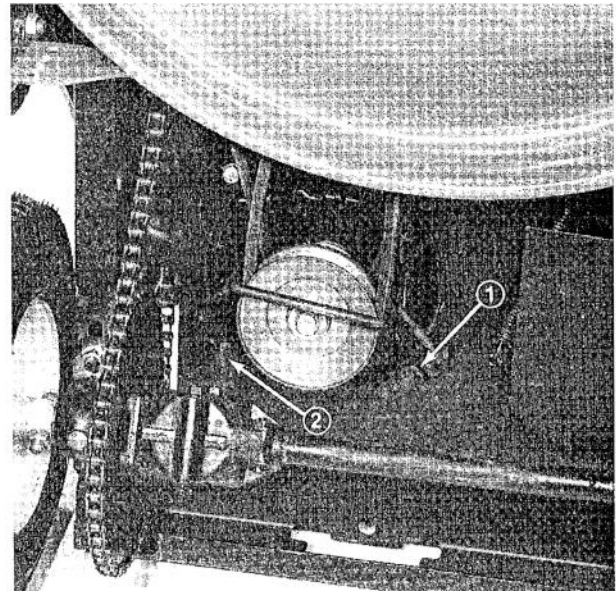
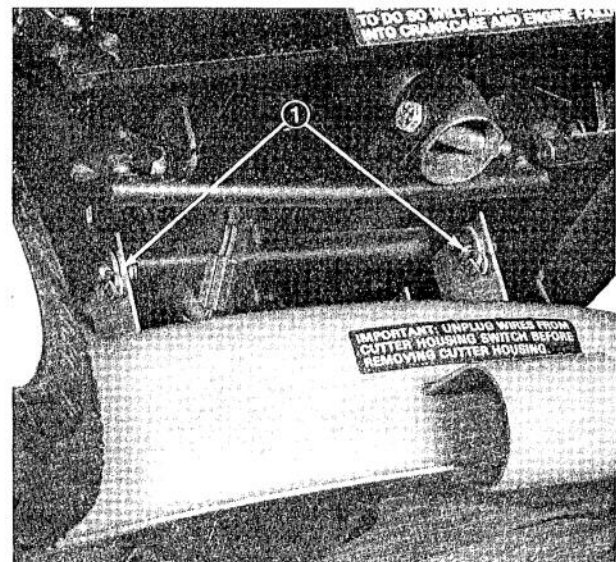
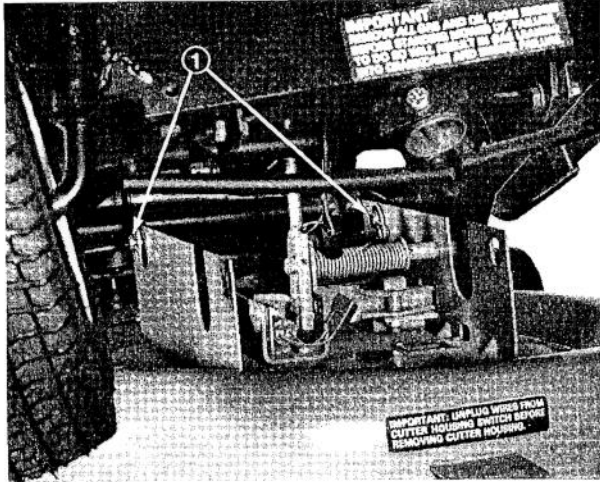

Figure 32
Figure 33
Figure 34
9. Remove hex head screw holding inside of belt guide and loosen the screw holding side of belt guide near chain (Fig. 32). Remove blade drive belt from pulley when there is enough clearance between belt guide and belt (Fig. 32).
retaining front of mower housing to front mounting pins (Fig. 33). Next, move housing to the side so it slides off mounting pins, and lower the housing until it stops.
11. Reach between front of mower housing and frame and separate interlock switch connectors (Fig. 33).
12. Remove two hair pin cotters and flat washers retaining back of mower housing to rear mounting pins (Fig. 34). Grasp mower housing and move it to the side until housing is off pins.
13. To install mower housing, slide back of mower housing onto rear mounting pins and retain it in place with two flat washers and hair pin coppers (Fig. 34). Push interlock switch connectors together and slide front of housing onto front mounting pins. Retain housing in place with two flat washers and hair pin coppers (Fig. 33). Install blade drive belt around large engine pulley, and secure belt guide in place with two hex head screws (Fig. 32). Make sure the belt does not contact belt guide when blade control is in ENGAGE detent.